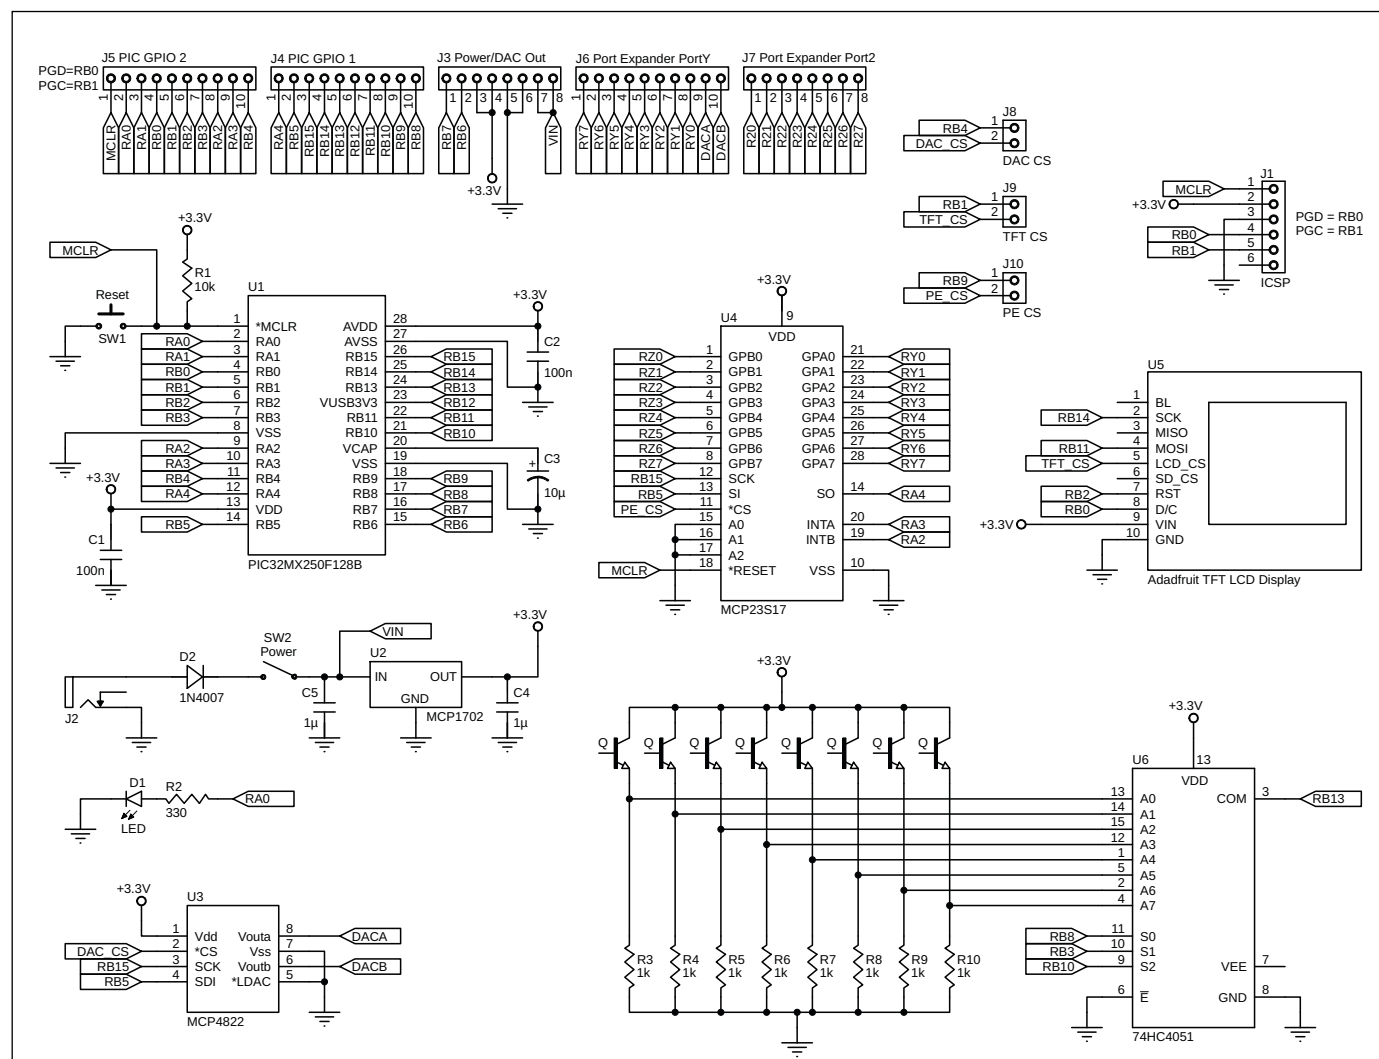

FIGURE 5
The full circuit schematic is shown in **Figure 5**. Each node between each phototransistor-resistor pair is connected to an eight-to-one, two-way analog multiplexer, the CD74HC4051E from Texas Instruments (TI). Analog multiplexers are much slower than their digital counterparts, but because the strings are used only for user input, this was not an issue. All eight phototransistor circuits are multiplexed to the same single ADC (analog-to-digital converter) on our microcontroller (MCU) board, which further simplified our design later on. We used simple I/O (input-output) pins to toggle the three address bits on this